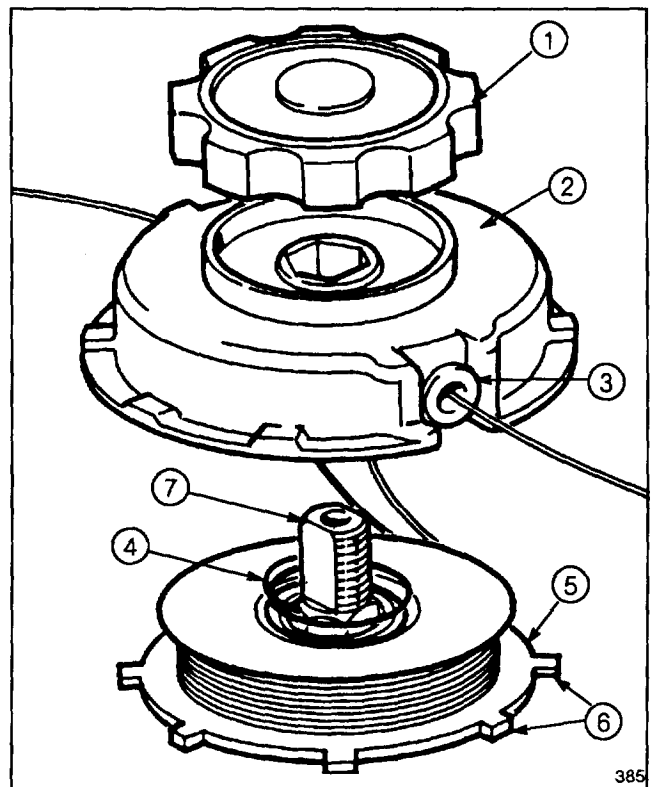

Figure 10
1. Loosen spool knob until it can be removed (Fig. 10).
2. Slide spool housing, spring, and spool from mounting shaft (Fig. 10).
B. Insert end of line into spool line retainer. Pull line thru so equal amounts of line are on each end (Fig. 10).